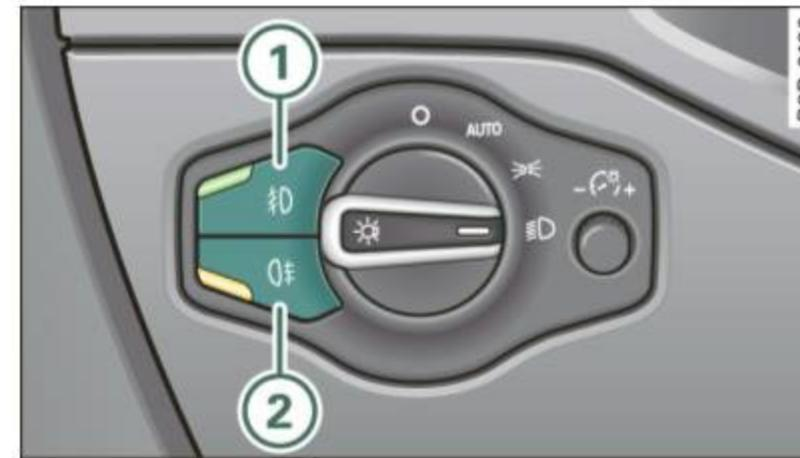

Fig. 52 Fog light switch
- To turn on the fog lights , press button ① ⇒ fig. 52.
- To turn on the rear fog lights , press button ②.